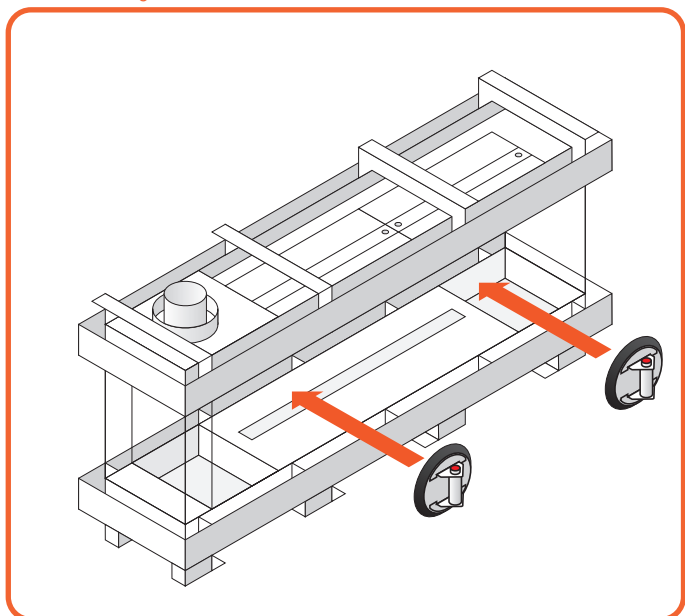

Figure 11.17 | Put on the suction cups
- Place the suction cups on the glass and ensure that it is properly sucked in so that the window cannot come loose (Figure 11.17).